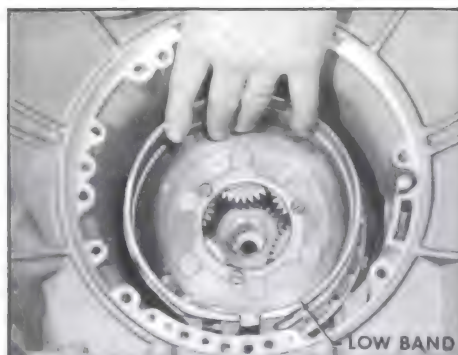

Figure 5-315
2. Install low band into case. See Figure 5-315.